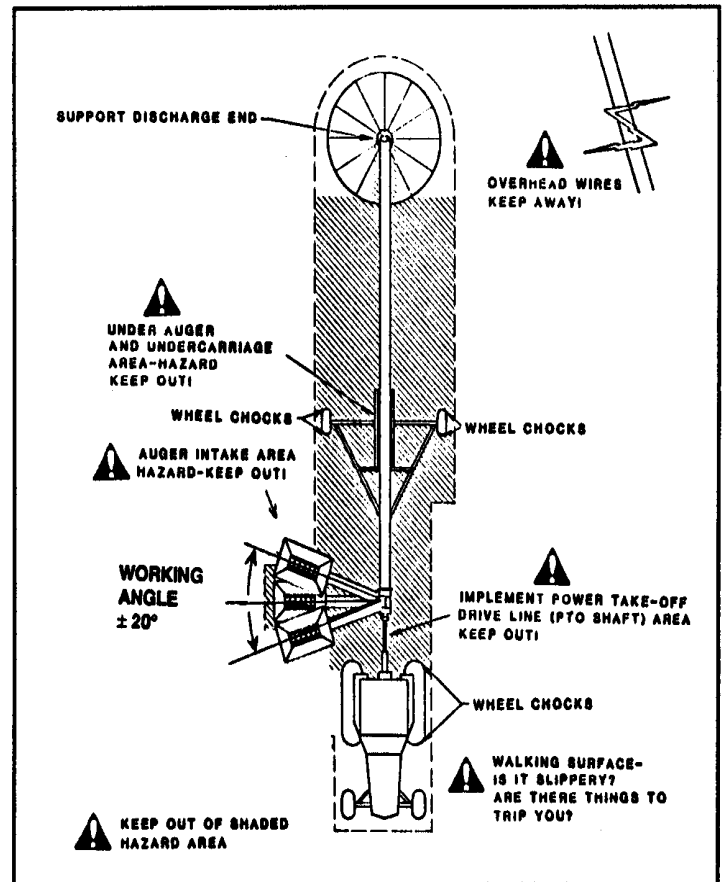

Fig. 15 SWING AWAY HOPPER POSITION
- Always locate the swing hopper within 20 degrees of a right angle to the main tube for optimum performance. See Fig. 15.